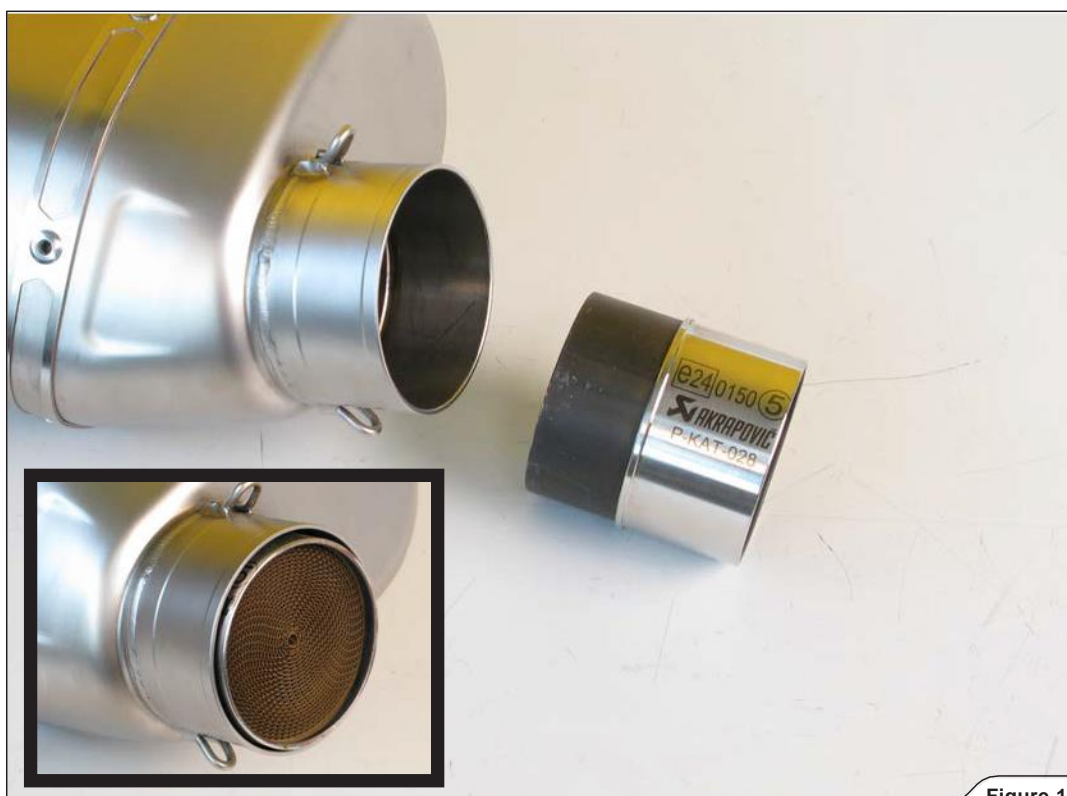

Figure 10
3. Insert the Akrapovič catalytic converter into the muffler's inlet, as shown (**Figure 10**).